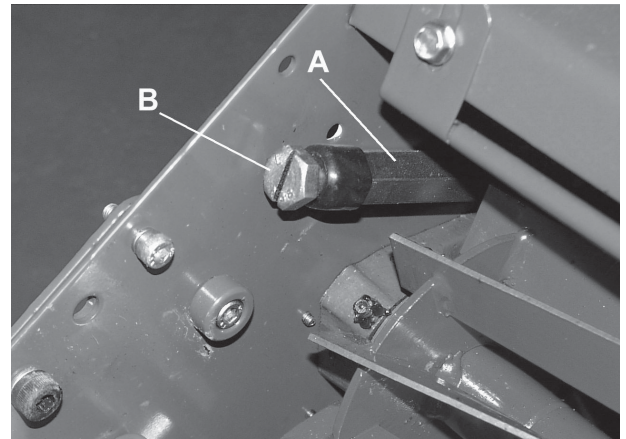

Fig. 8.6
8.6 SUPERCERTES/SUPER BOWL: CYLINDER TO BOTTOM BLADE ADJUSTMENT (Fig. 8.6)